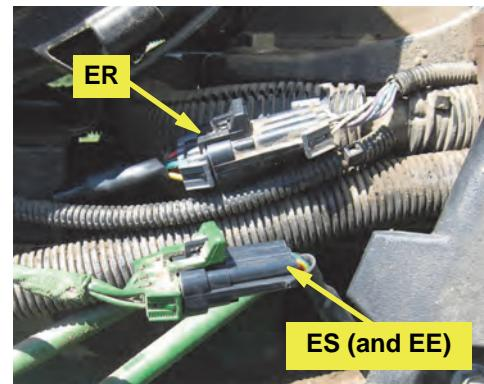

Figure 2d: 80 series - installed phantom plug and connected WAS adapter and WAS cable
- Install the male phantom plug **ER** in the machine's female WAS wire connector (Figure 2d - upper connection).
Connect WAS adapter **ES** to routed WAS cable **EE** then connect **ES** to the machine's male WAS connector (Figure 2d - lower connection).